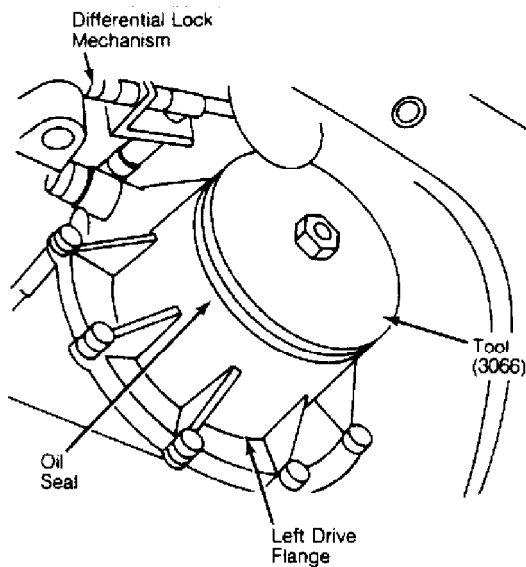

Fig. 7: Installing Left Flange Seal
1) Install threaded shaft of Seal Installer (3066). Place oil seal on seal installer and tighten to stop. Remove seal installer. Fill oil seal and sealing lips with multipurpose grease. See Fig. 7.